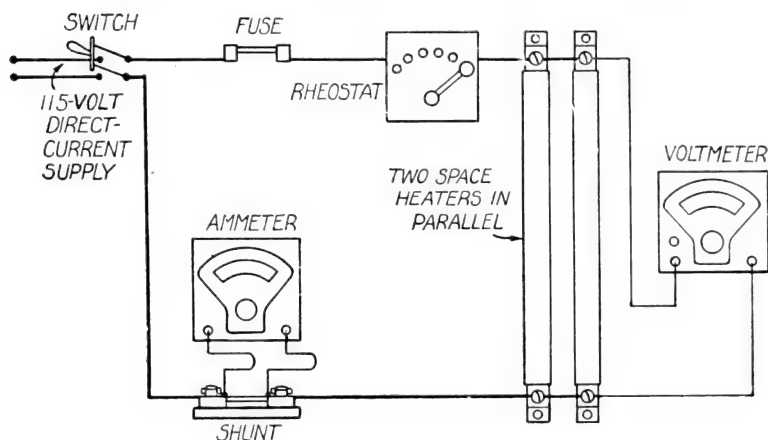

Fig. 18. Space Heaters Connected in Parallel
**Resistances in Parallel.** With the space heaters connected in parallel, as shown in Fig. 18, we may calculate the resistance from the individual resistance values or we may measure it as before. Let us do both.